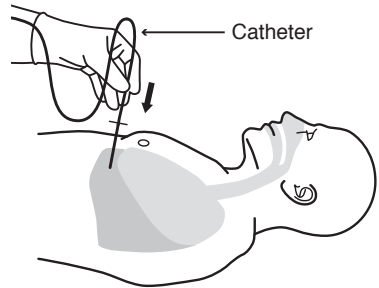

Fig. 6
21. Insert proximal end of catheter into introducer, advancing until all eyelets are located in the pleural space. Separate tearaway sheath to allow catheter to advance if needed. (Figure 6)